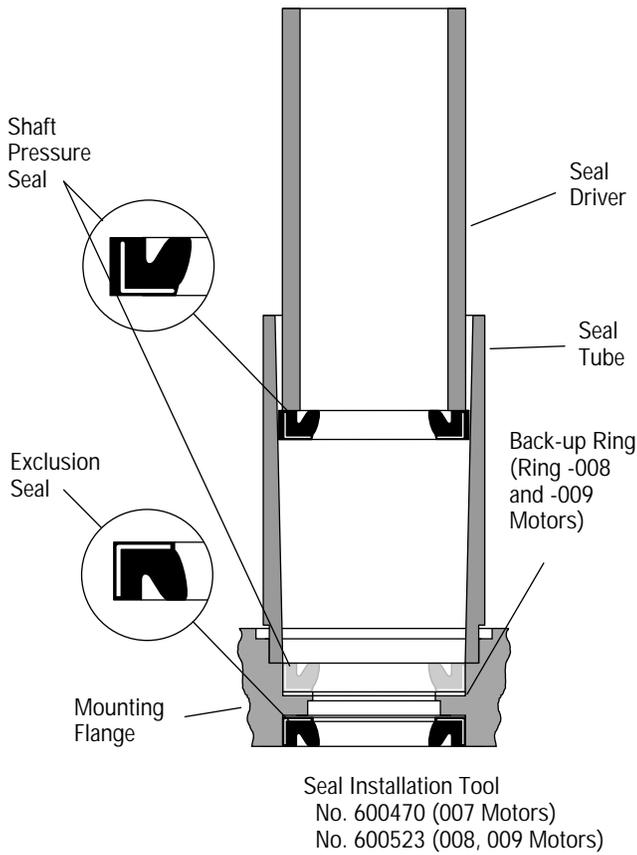

Figure 12
- 21 Install exclusion seal in flange (see Figure 12). Carefully press exclusion seal into place.
- 23 Lubricate I.D. of seal tube and O.D. of shaft pressure seal with light film of clean petroleum jelly. Align small I.D. end of seal tube with seal seat in mounting flange. Install back-up ring and pressure seal in tube with lips of seal face up (see Figure 12). Insert seal driver in tube and firmly push seal seat with a rotating action.